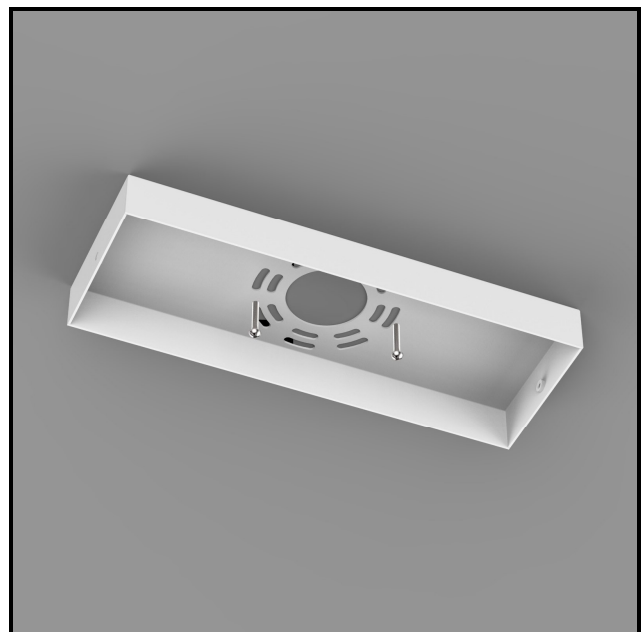

Figure 2
- Install mounting bracket onto ceiling electrical box with screws provided. (Figure 2)